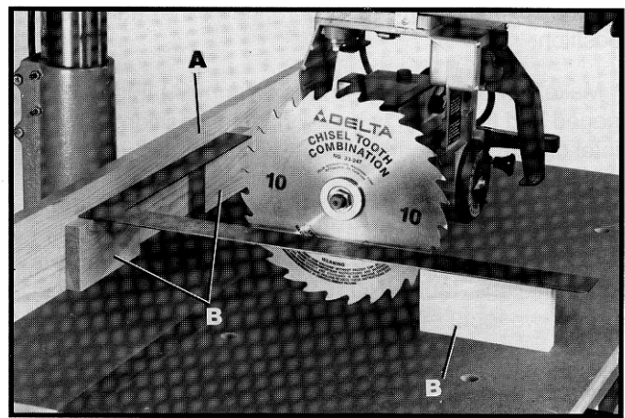

Fig. 52
3. Replace the fence with a piece of 3/4" wood (A) Fig. 52, at least 5" high. Tighten table board clamps.
4. Place three identical pieces of wood (B) Fig. 52, on the table and lay a framing square on them so that the short arm is flush against the fence and the long arm is against the blade as shown. Be sure square is between the teeth of the blade.